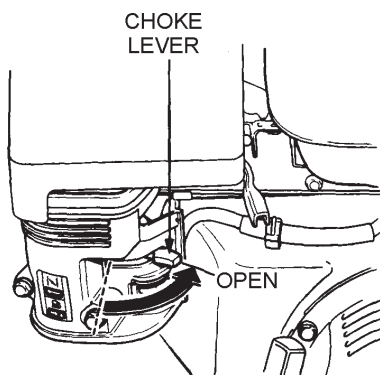

Figure 19. Engine Choke Lever (Open)
3. Place the *choke lever* (Figure 19) in the "OPEN" position if starting a *cold* engine.